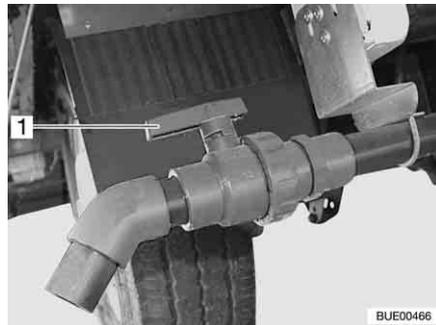

Fig. 223 Drain cock
- Turn the handle (Fig. 223,1) of the drain cock in flow direction.